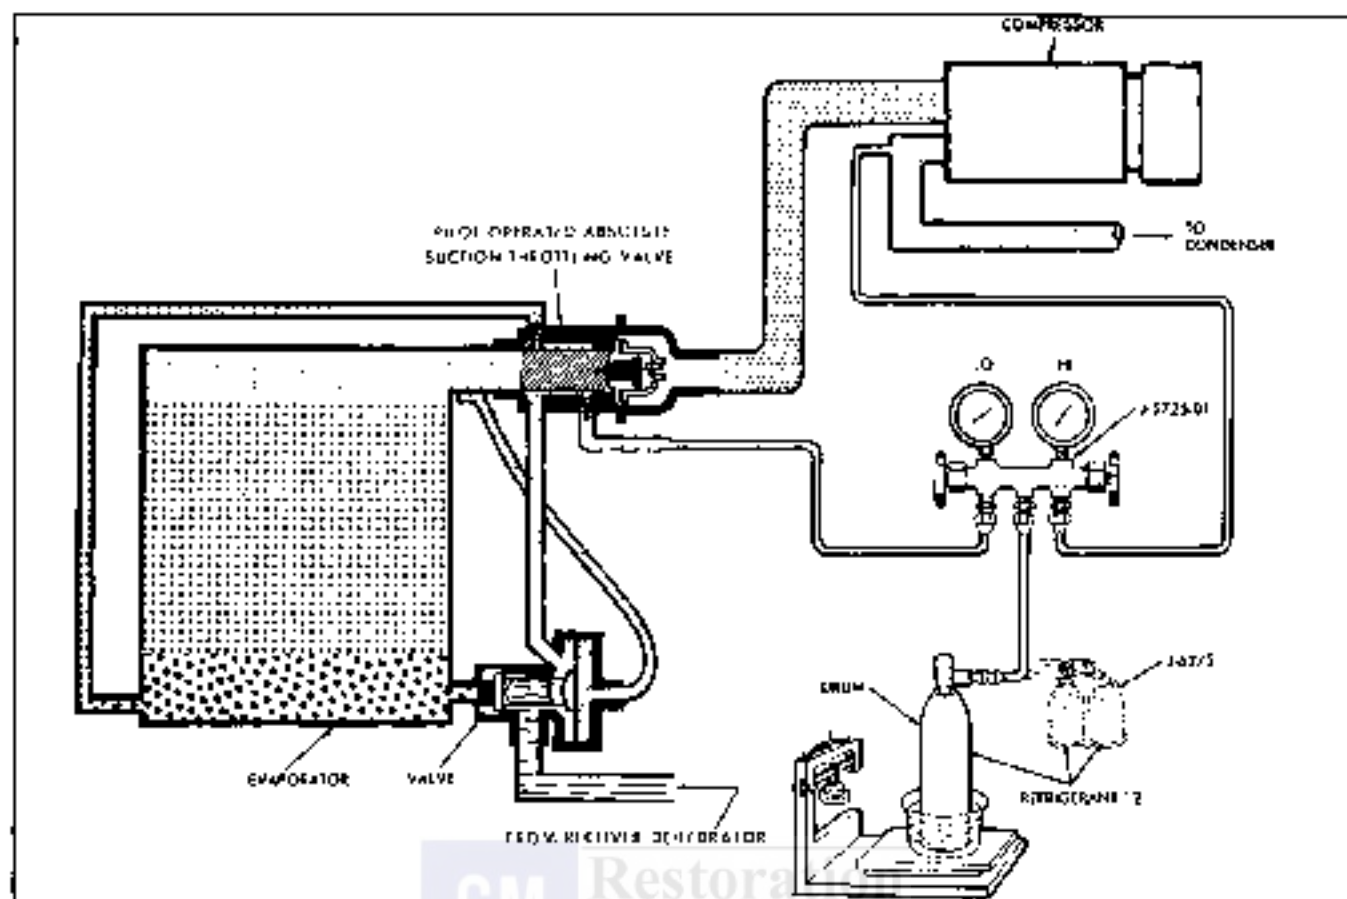

Fig. 1A-3 Schematic - Charging Refrigeration System
3. Place refrigerant drum (in pail of water) on scales (bathroom or commercial), preferably commercial, Fig. 1A-3.